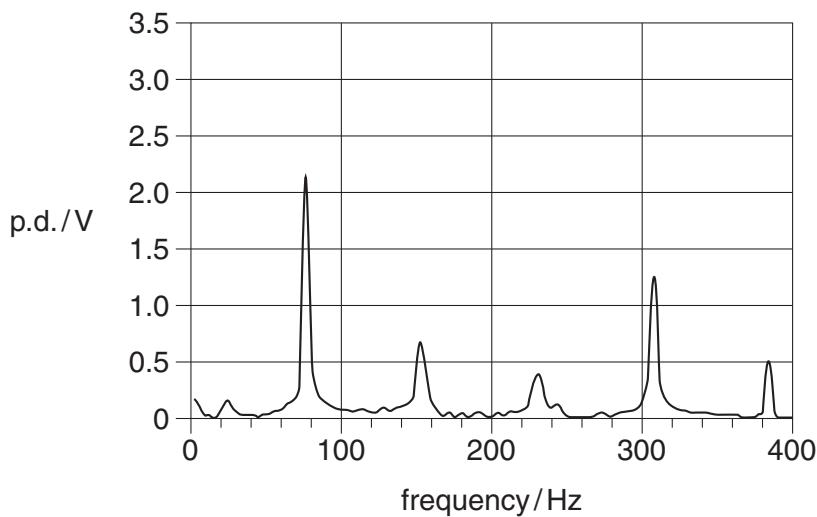

Fig. 4.1
- 4 Fig. 4.1 shows the frequency spectrum of a sound.